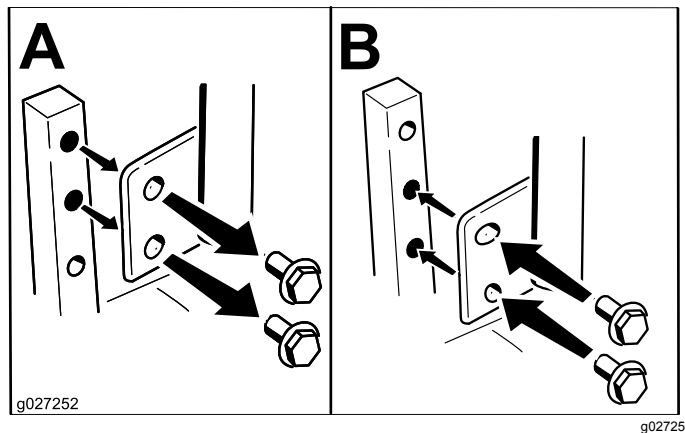

Figure 20
The motion-control levers can be adjusted higher or lower for maximum operator comfort (Figure 20).
2. Loosen the lower bolt just enough to pivot the control lever fore or aft (Figure 20). Tighten both bolts to secure the control in the new position.